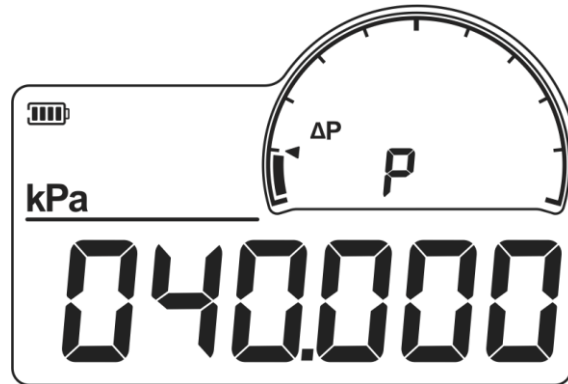
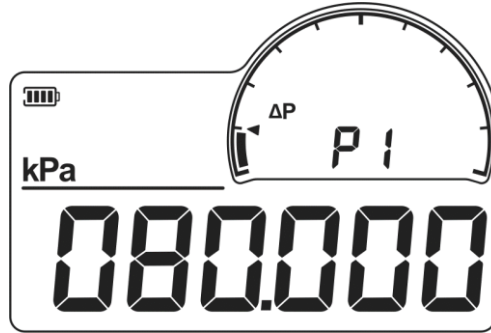
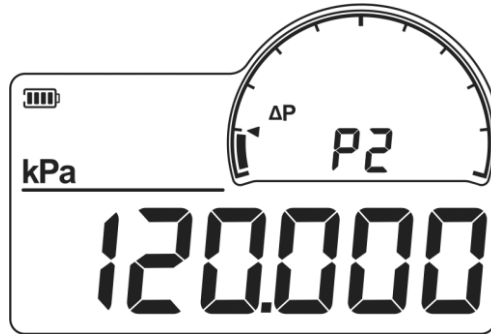

Figure 13 Leak test completed
Figure 14 Leak test initial pressure
Figure 15 Leak test end pressure
2. After the pressure leak test is completed, as shown in Figure 13, the P logo appears in sub display area, and the pressure difference value is displayed in the main display area. When it ends, short press the Down or Right button to switch and display the initial pressure value P1 as shown in Figure 14, the end pressure value P2 as shown in Figure 15, and the pressure difference value is P.